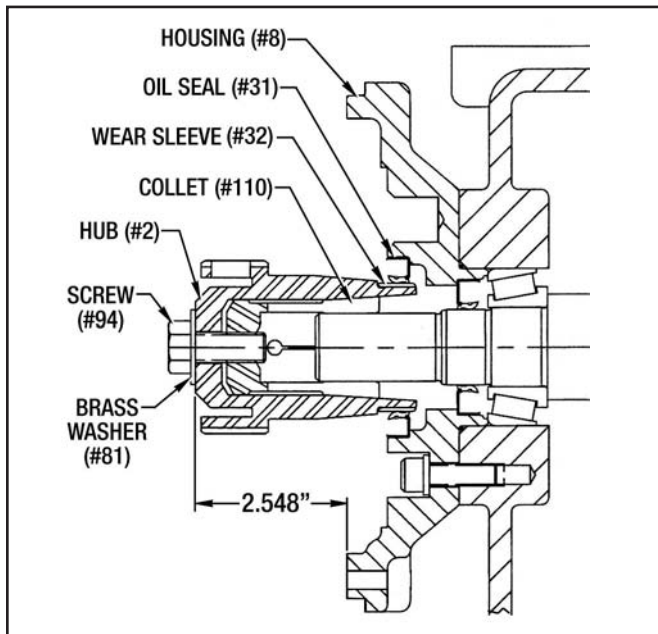

Figure 6.4 - Positioning Hub on Worm Shaft
4. Mount the Housing (#8) on to the Main Housing (#800) with (4) Screws (#152) and (4) Dyna-Seals (#130). Torque to 25 Lb. Ft.
6. Coat the Wear Sleeve (#32) with a light coating of white grease and carefully position the Collet (#110) and the Hub (#2) on to the worm shaft extension as shown in *Figure 6.4*. Measure 2.584" from the face of Housing (#8) to the outer surface of the Hub (#2).